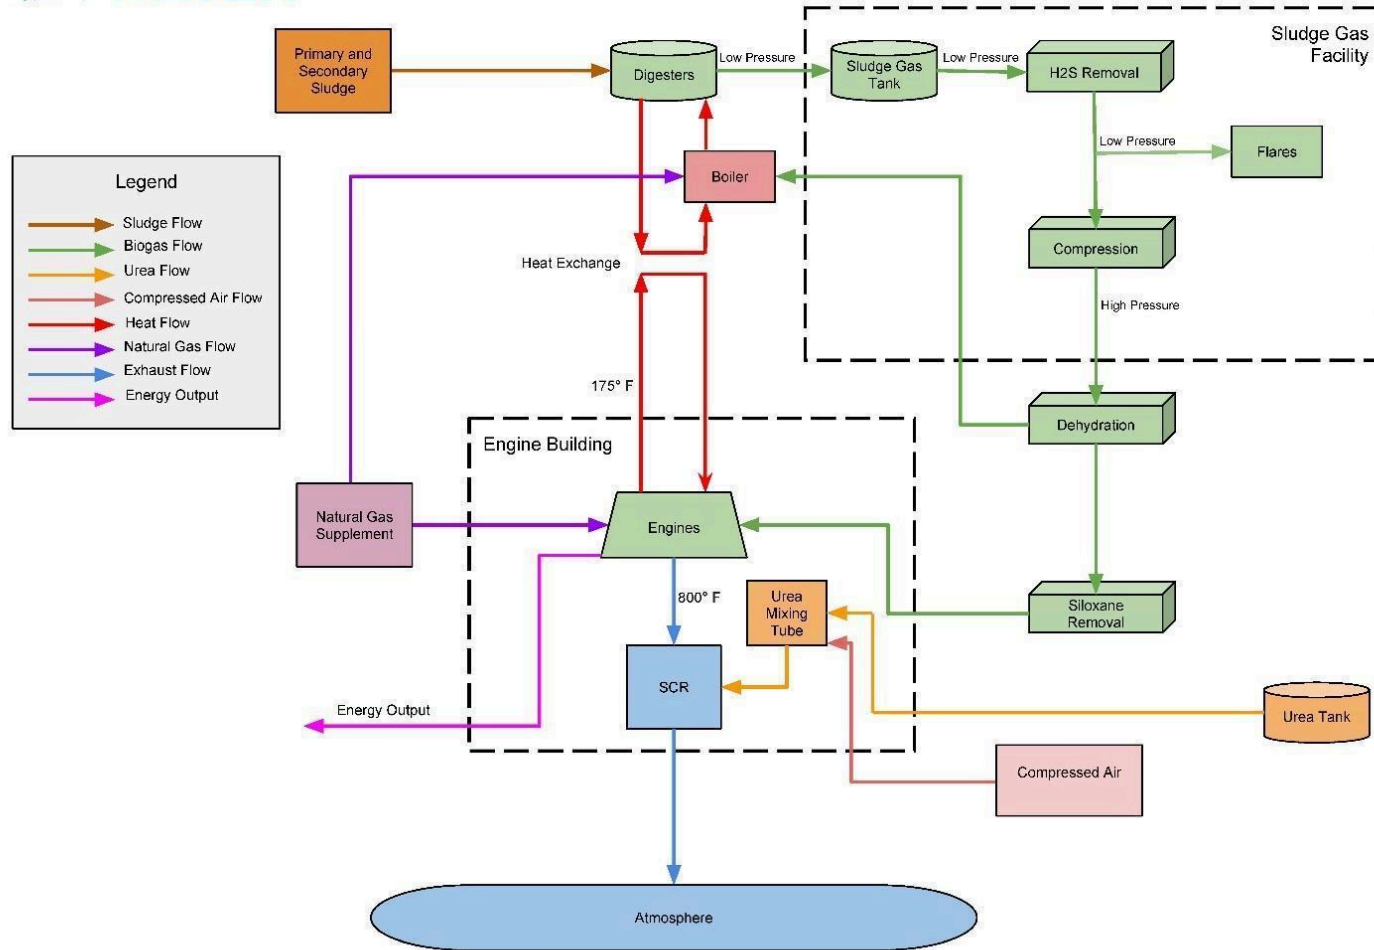

Figure A-1: Overall Process Flow Diagram for Biogas at NEWPCP.
*Please refer to **Figure A-1** and **Figure C** (below).*